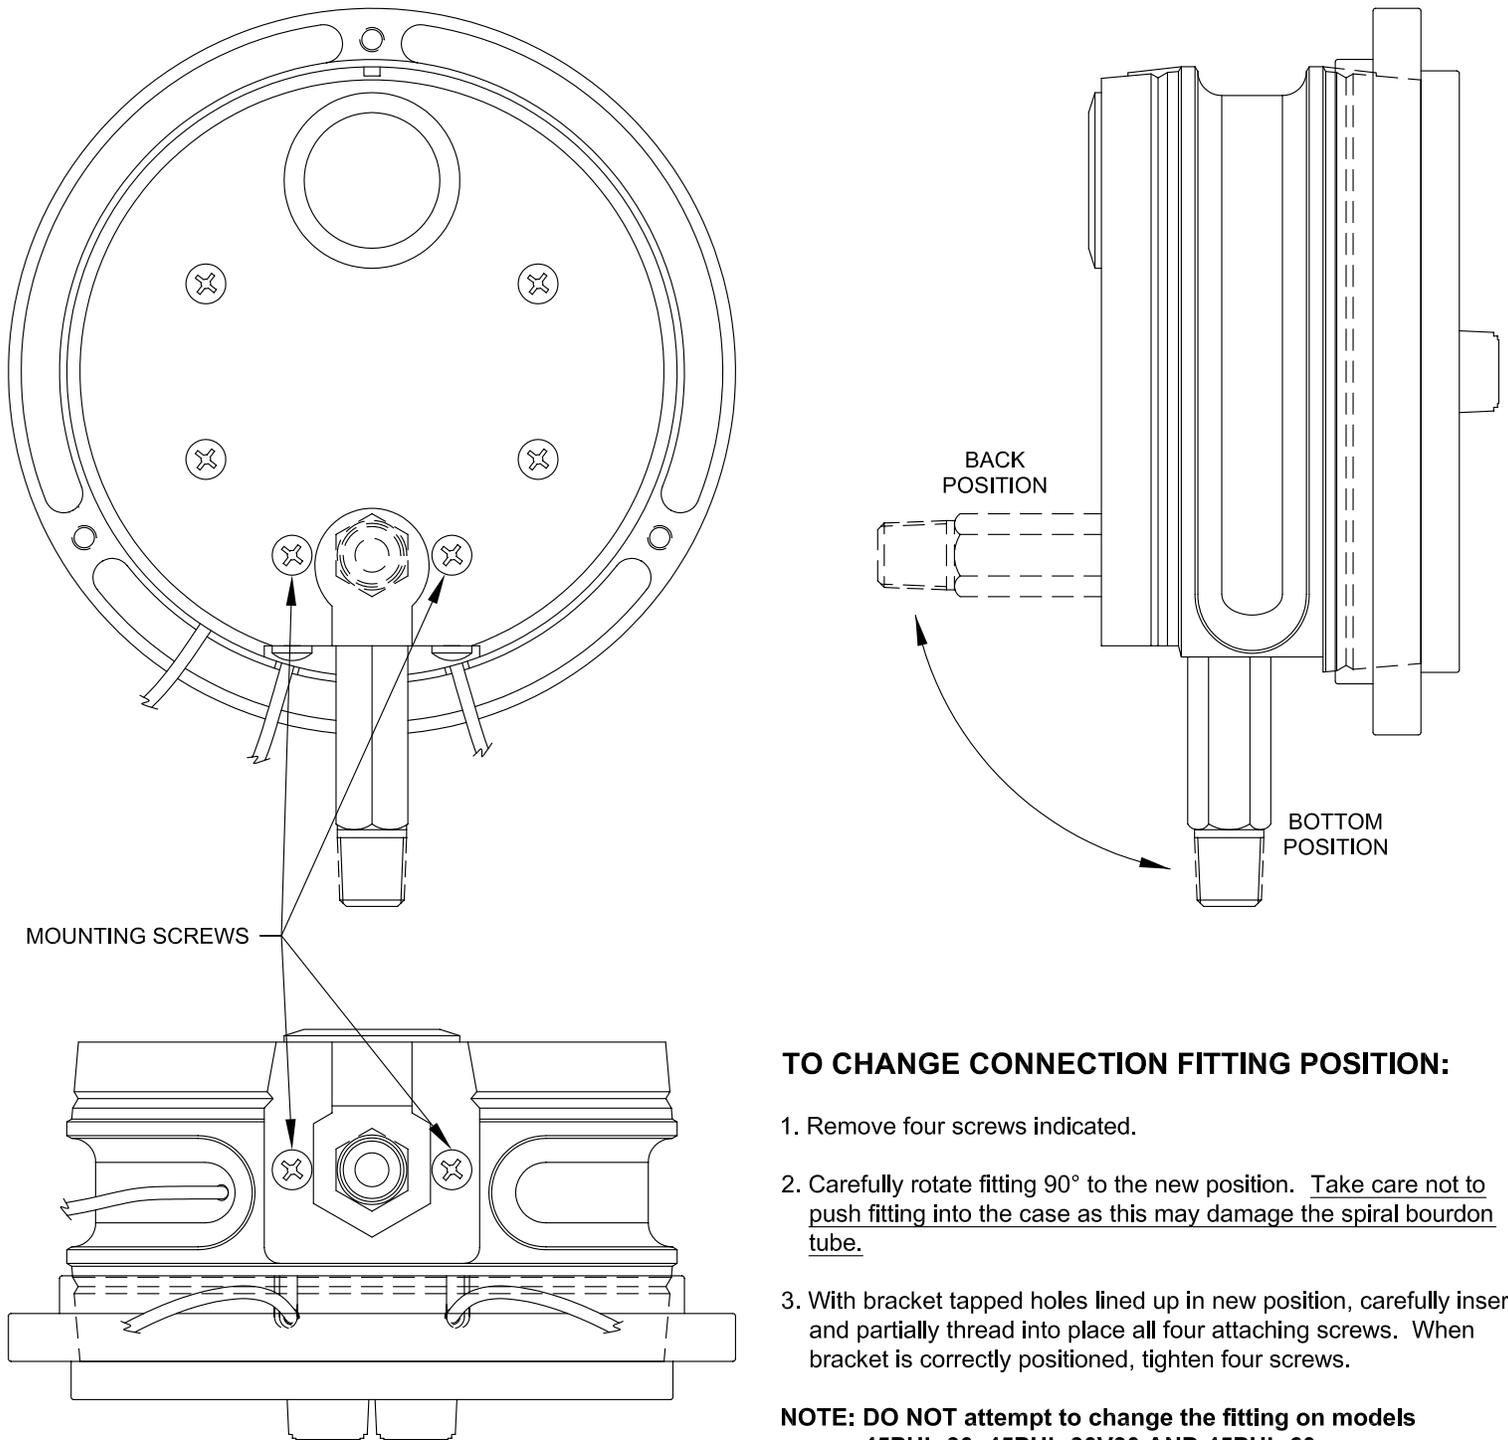

Figure 2
- 1.2 The pressure connection fitting is user adaptable on most models for either a bottom or a back connection - see paragraph 2.2 and figure 2 for details. The fittings are 1/4" NPT male up to 1000 psi and 1/2" male for 1500 psi and above. The gauge has a removable flange which can be used to front mount or back mount the gauge. The gauge can also be direct mounted.
NOTE: See figure 2 to change the position of the pressure connection fitting.